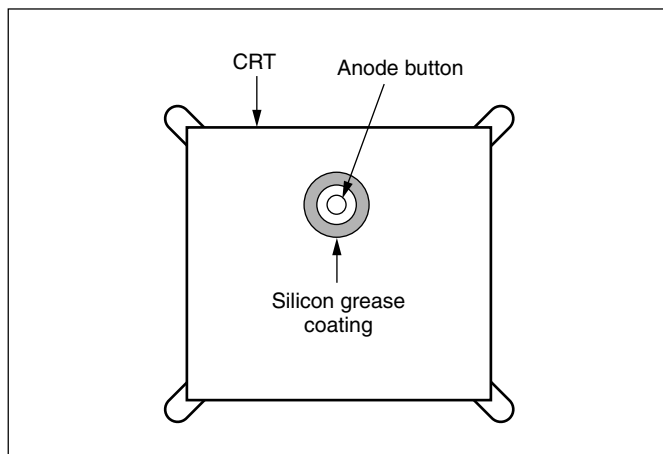

Fig. 6
- Subsequent to replacement of the CRT and HV transformer or repair of the anode cap, etc. by dismantling them, be sure to coat silicon grease for electrical insulation as shown in Fig. 6.
- 1. Wipe around the anode button with clean and dry cloth. (Fig. 6)